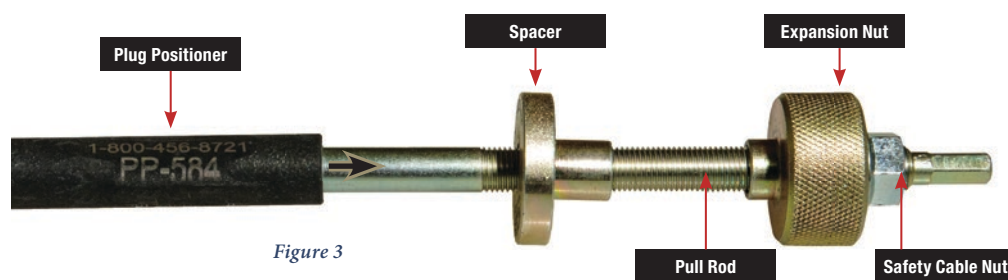

Figure 3
- The *Pull Rod Assembly* must contain the following components shown in *Figure 3*.